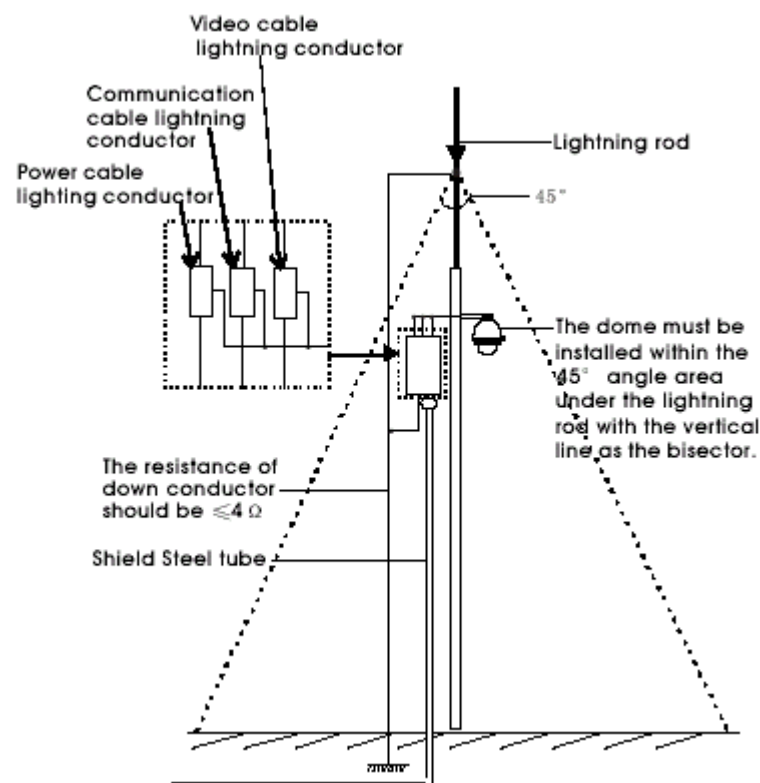

Figure 26
- | The system must be grounded with equal potentials. The earth ground connection must satisfy anti-interference and electrical safety requirements and must not short circuit the high voltage electricity network. When the system is grounded separately, the resistance of the down conductor should be $\leq 4 \Omega$ and the sectional size of the down conductor should be $\leq 25\text{mm}^2$ (refer to Fig 26).